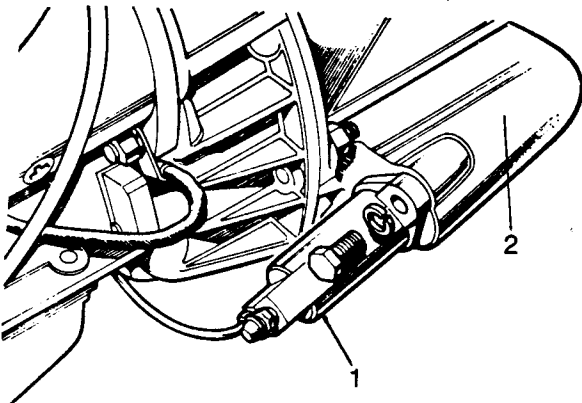

Fig H1.7
- (12) Refer to Fig H1.7. Remove the clutch slave cylinder (1) from the bell housing (2) (see Sub-sub-section H3.4, Chapter 3).
- (13) Jack up the rear of the engine with a 25 mm thick block of wood between the flywheel housing, to retain the engine in position when the gearbox is removed.
- (14) Place a suitable sling around the gearbox and tension it sufficiently to take the weight.
- (15) Remove the remaining fixings securing the bell housing to the flywheel housing.
- (16) Remove the gearbox rear mounting cross-member fixings to chassis and remove the cross-member.
- (17) Carefully withdraw the gearbox rearwards clear of the clutch and lower beneath the vehicle.